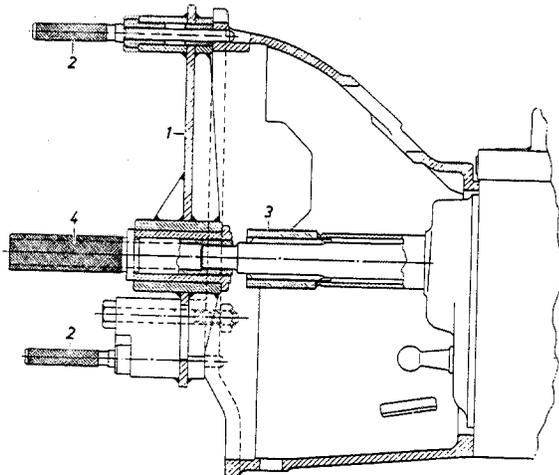

Fig. G 2/5
To center the fixing device push plug (4) over driveshaft journal (Fig. G 2/5).